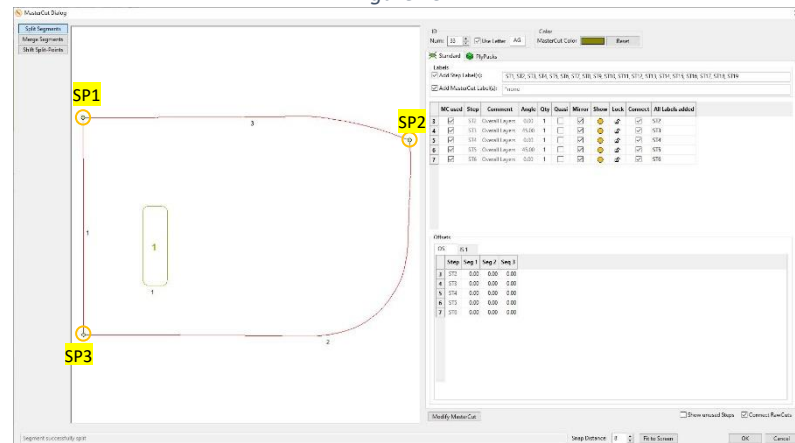

Figure 298
94. ... and for MasterCut AG and split the outer geometry as shown in Figure 298...